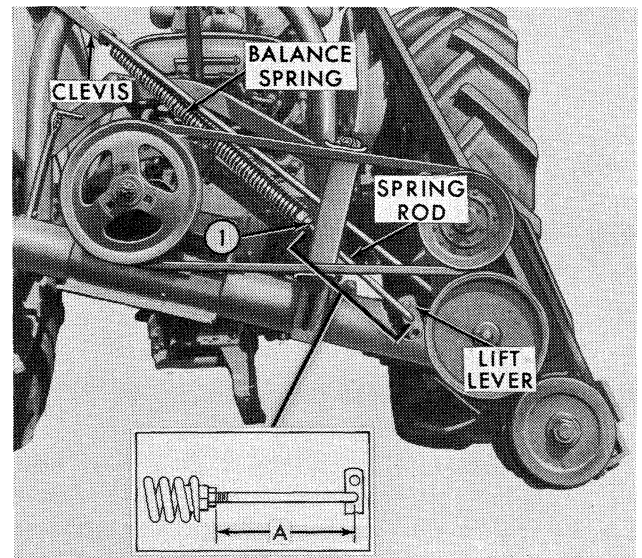

Figure 12
Inner Shoe: The balance spring, Figure 12, controls the weight carried on the inner shoe. To permit the cutter bar to follow the contour of uneven ground without excessive wear on the inner shoe, adjust the balance spring to the spring rod length shown in the Insert and described as follows:
3. Loosen the lock nut (1), Figure 12.
Outer Shoe: The weight on the outer shoe should be 25–30 pounds for the 6-foot bar, 30–35 pounds for the 7-foot bar, and 35–40 pounds for the 8-foot bar. To decrease this weight, place the spring rod in the upper hole of the lift lever as shown in Figure 12. Conversely, to increase this weight, place the spring rod in the lower hole of the lift lever.